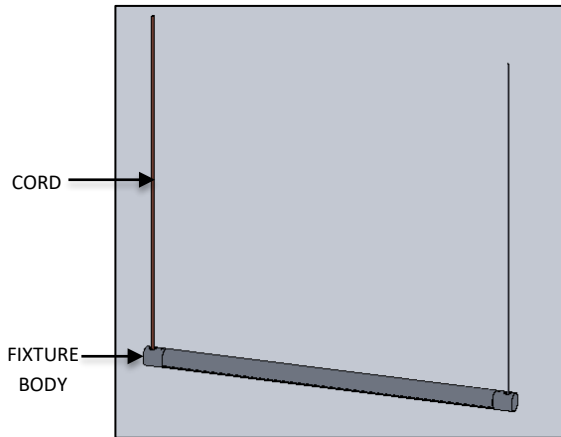
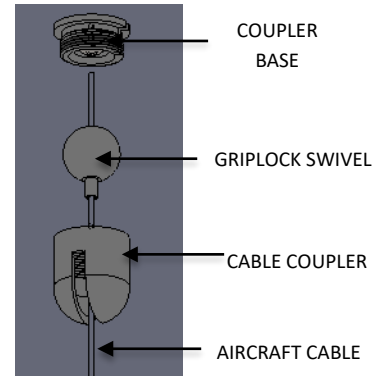

FIG. 18 – FIXTURE INSTALLATION
FIG. 19– AIRCRAFT CABLE INSTALLATION
3. Raise the FIXTURE as shown in FIG. 18 and insert AIRCRAFT CABLE through the CABLE COUPLER and into the GRIPLOCK swivel and then thread the CABLE COUPLER onto the COUPLER BASE. Make sure there is at least 1.75" of cable inserted into the GRIPLOCK swivel as shown below in FIG. 19 to assemble to the MOUNTING BRACKET.